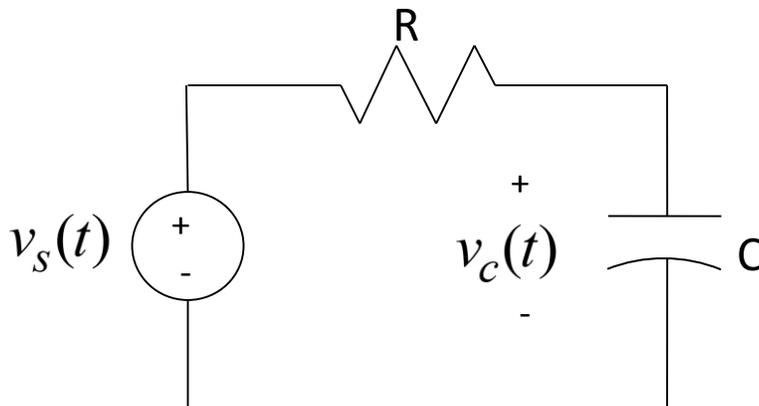

Figure 1. Circuit for Part A.
2) Using the Digilent EE bread board construct the circuit shown in Figure 1 using your $1 \mu\text{f}$ capacitor and a $1 \text{ k}\Omega$ resistor. These components should be available in your lab kit. We will measure the output of the circuit as the voltage across the capacitor. We will be trying to estimate the time constants for this circuit as we vary the resistance. The time constant for this circuit is $\tau = RC$, and we will measure the time constant by determining the 10%-90% rise time, t_r , and using the formula